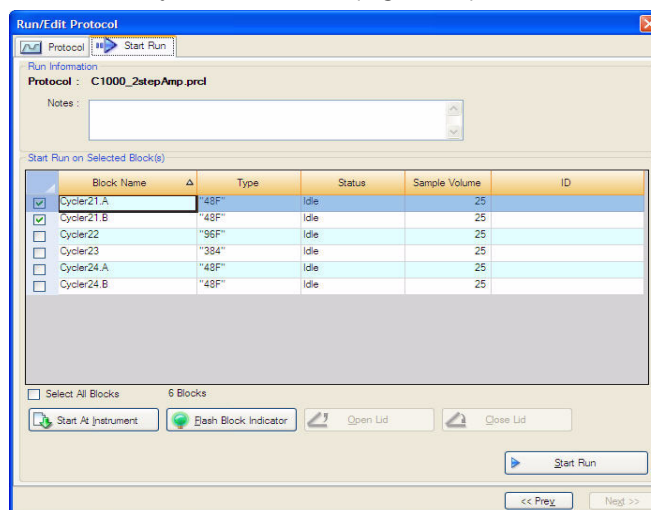

Figure 98. Running a protocol.
3. Select the block or blocks you want to run (Figure 98).